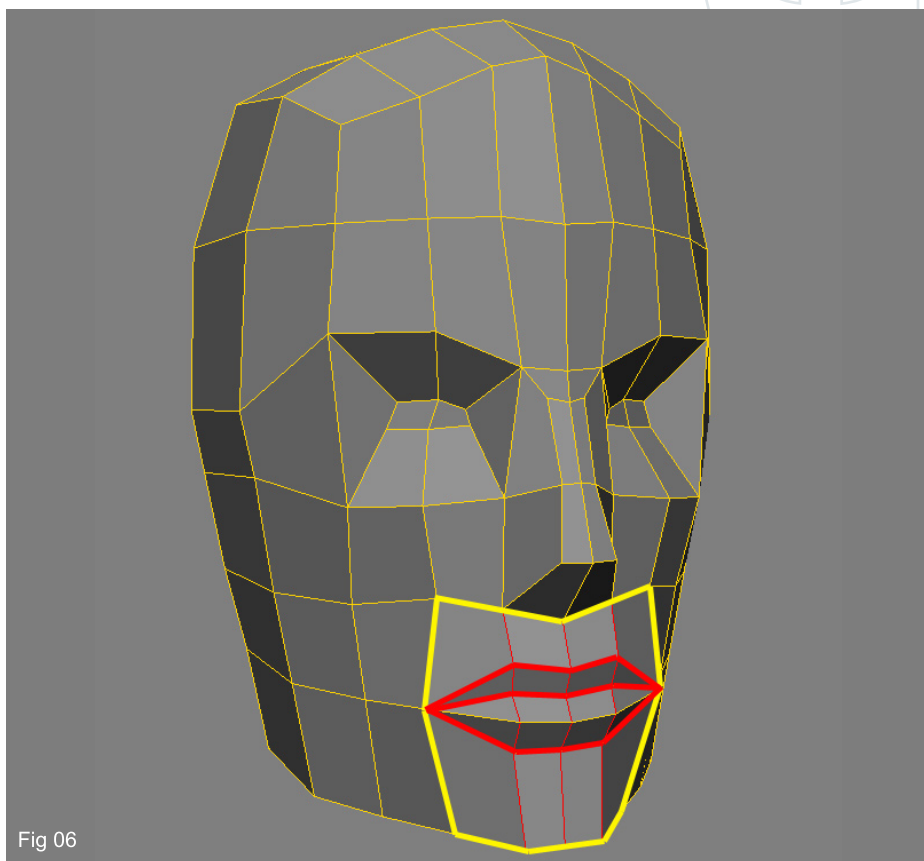

Fig 06
6. Now let's concentrate on the area marked in yellow in Fig06, the mouth area. It is made up of four big polygons. We already have an edgeloop for the lips but we need three more cuts to detail this area of the mesh. Use the Add Edge tool (shortcut key: "\") to create the three new cuts (marked in red in Fig06). As usual, take some time to adjust the vertices and give the lips a better shape: